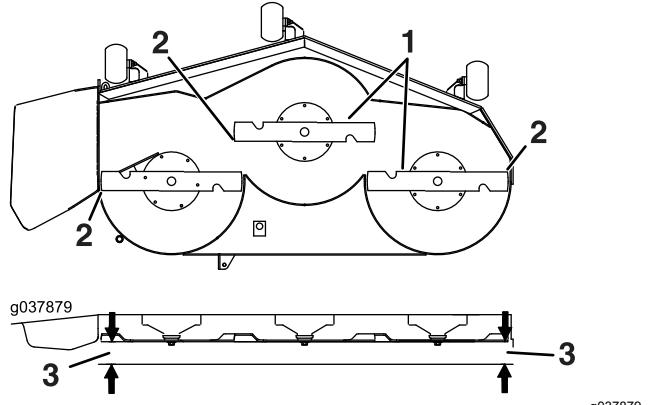

Figure 100
- Measure between the blade tip and the flat surface (Figure 100). If both measurements are not within 5 mm (3/16 inch), adjust the leveling; continue with this procedure.
14. Carefully rotate the blades side to side (Figure 100).